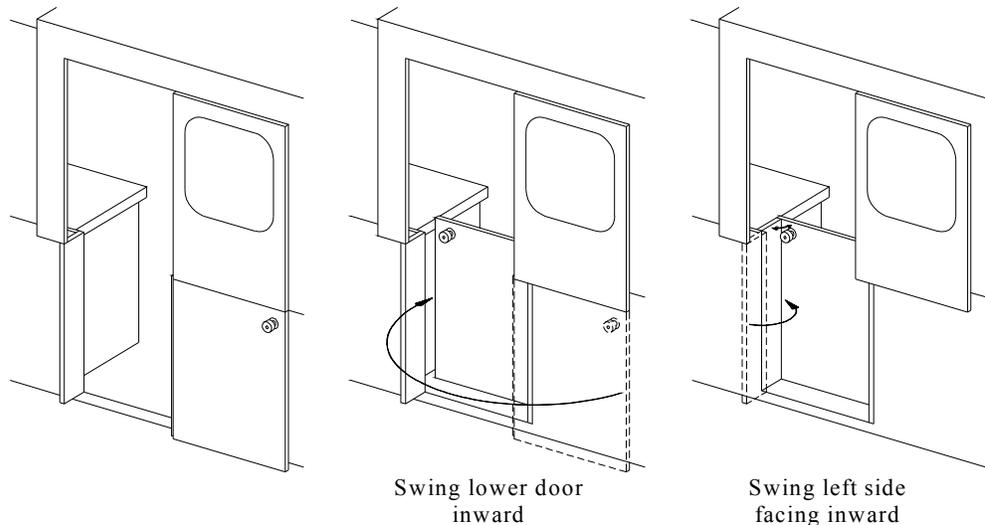

**Figure 1. Bathroom Fold Down**
12. Unlatch the two rear top corner latches (square aluminum tubes, see Figure 1). Be sure to slide rear bed in completely. Ensure that all draw latches are oriented with the hook facing outward (to prevent latches from being captured between the lift arm and the wall during closing). Close rear roof by pushing at the center of the rear wall. If necessary, pull down on the roof until the rear wall contacts both of the rubber bumpers on the frame. (The roof may spring back up slightly. This should not affect latching.) During latching, you may need to push the walls in for proper latch alignment. **Note: Your trailer should always be latched first on the door side and then the off-door side.** Reach through open upper door and push down on roof until it latches. The U-bolt foot stirrups may be used to assist in latching the tops down. Close upper door and secure with turn button. Latch other side of rear roof by pushing down on off-door side until it latches, using foot stirrup as needed.